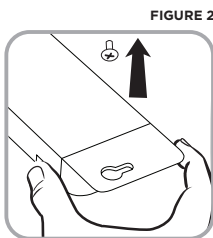
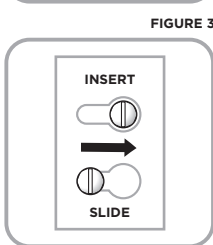

FIGURE 2
FIGURE 3
5. After installing mounting screws (included), secure the LED light fixture to mounting surface via keyholes. **See Figure 2 and Figure 3.**